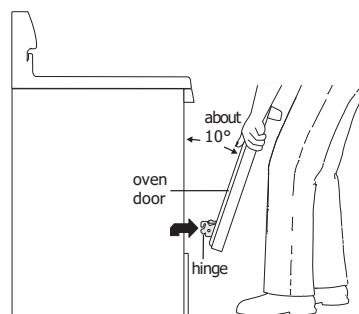

Figure 22: How to remove door
3. Firmly grasp both sides of oven door along the door sides. Do not use the oven door handle (See Figure 22).
1. Firmly grasp both sides of oven door along the door sides. Do not use the oven door handle (See Figure 22).